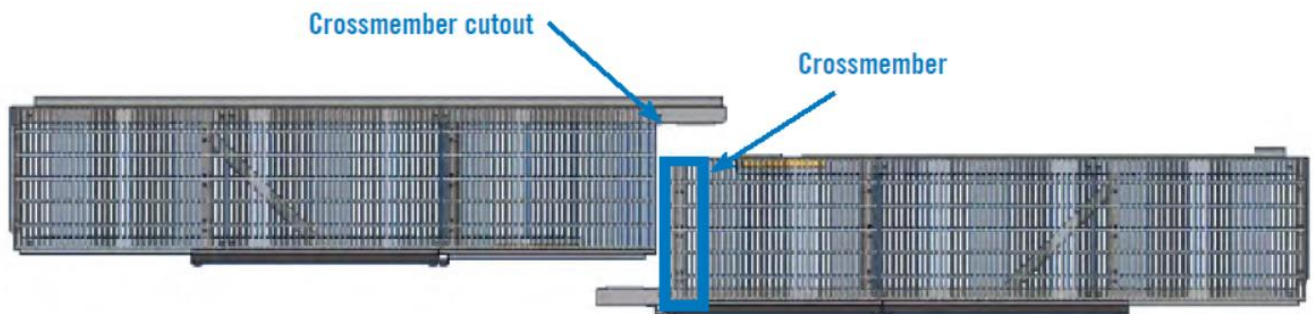

Figure 17. Platform Assembly Alignment
4. Slide the platforms until the crossmember cutout is aligned with the crossmember of the second section. Then slide the two sections together until the support beams are aligned, and the crossmember is seated into the cutout. See **Figure 17**.